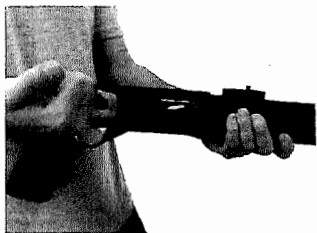

Fig. 7
4. Pull the charging handle completely rearward. (Fig. 7)